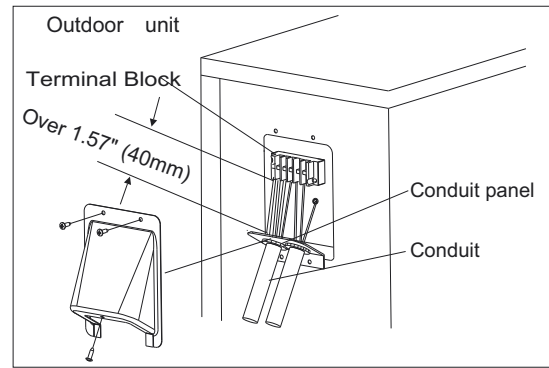

Fig. 9 – Field Wiring
5. Connect conduit to conduit panel (see Fig.9).